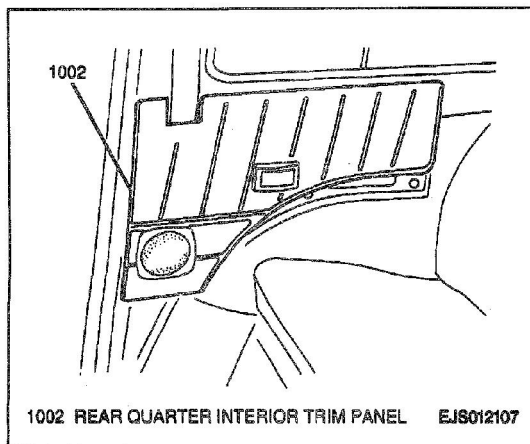

Figure 3—Rear Quarter Interior Trim Panel—Two - Door Models
- Pull rear quarter interior trim panel from vehicle, disengaging plastic clips (Figure 3).
1. Rear quarter interior trim panel to vehicle; press into place, engaging plastic clips (Figure 3).